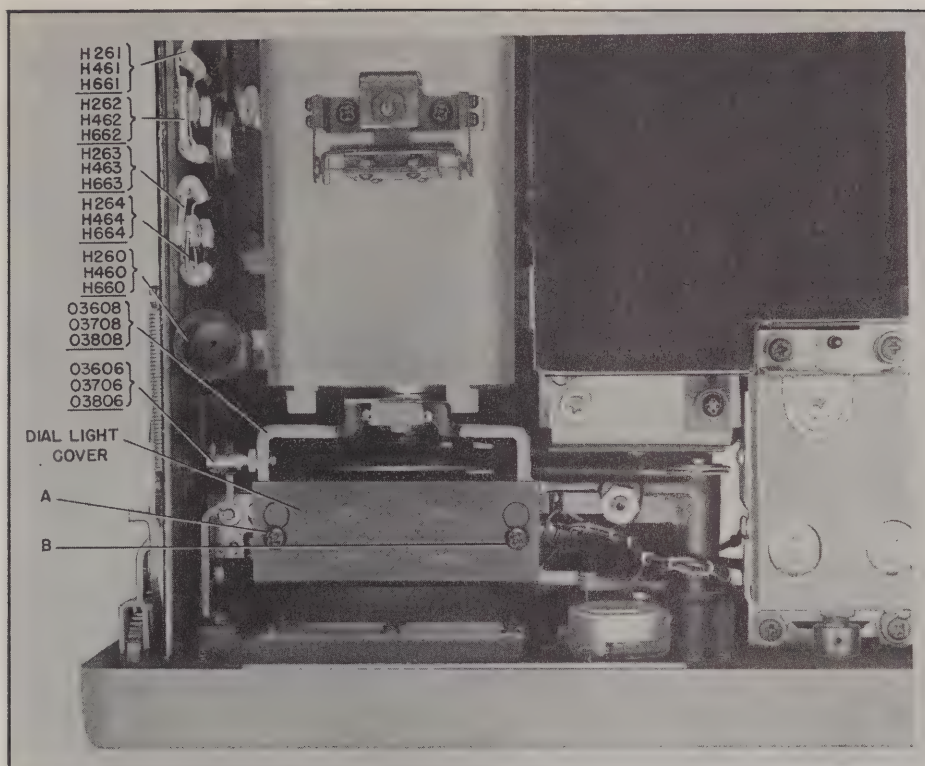
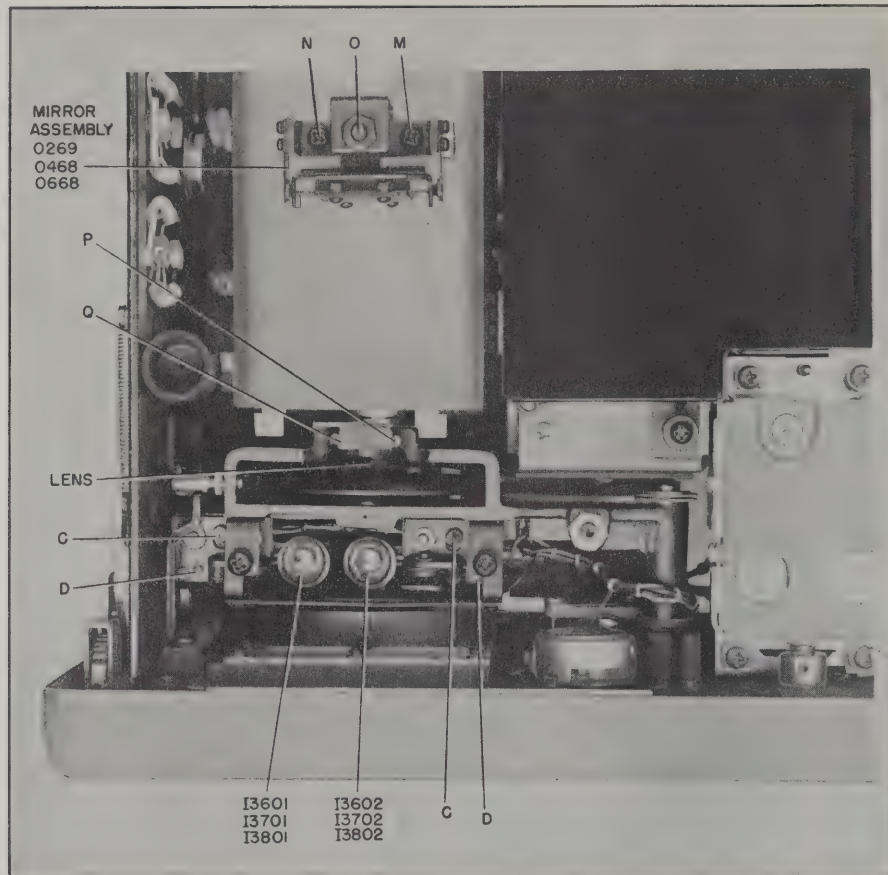

Figure 7-10. Lens-Arm Assembly and Dial Light Compartment, Top View
Figure 7-11. Lens-Arm Assembly and Dial Light Compartment, Cover Removed, Top View
a. PILOT LIGHT AND CRYSTALS.—First remove the pilot light cover or the cover of the assembly in which the crystal lies, then remove the bulb or crystal by use of the rubber plunger (H260, H460, or H660) located near the Allen wrenches on the left inner wall of the chassis (see figure 7-10). This plunger has an opening at each end. Place the end having the proper size opening over the crystal or bulb and press on the plunger until it grips the crystal or bulb. Then remove the bulb or crystal by pulling or twisting the plunger as necessary.
(1) Pull the receiver chassis out to servicing position. Behind the tuning dial, accessible from the upper side of the chassis, is the cover of the dial light compartment (marked I3601, I3602, X3601, X3602, or I3701, I3702, X3701, X3702, or I3801, I3802, X3801, X3802, depending on the receiver type). This is shown in figure 7-10.
(2) Loosen the two captive screws (A and B of figure 7-10) which retain the dial light cover. Slide the cover forward so that its two keyhole-shaped openings clear the captive screws, then lift off the cover.
(3) Replace the bad bulb or bulbs by using the small plunger (H260, H460, or H660) as described for pilot light and crystal removal. Then perform the adjustments given in step (4).
(4) Refer to figure 7-11. Either one of the two lamps can be placed in operating position by means of the LAMPS switch (S3601 on AN/FRR-21, S3701 on AN/FRR-22, and S3801 on AN/FRR-23), a front panel control. There is one pair of red-headed screws C, D on each side of the lamp support frame. In each pair, the larger of the two screws (C) moves the corresponding
①- REFER TO THE APPROPRIATE SCHEMATIC AND CONNECTION DIAGRAM, AND CLIP OFF TUBE LEADS NOT USED.
b. On the top side of the chassis, unhook the spring O3606, O3706, or O3806 (figure 7-10) from the left side of the lens arm assembly O3608, O3708, or O3808 and tie a 6-inch piece of string from the end of the spring to the bracket supporting the lens arm assembly, to prevent the spring from falling into the center of the chassis. Then swing the lens arm assembly open, and tie a piece of string from the end of the lens arm assembly to the right-hand front handle of the chassis.
(See figures 7-10 to 7-13.)
f. Refer to figure 7-11. Adjust the mirror assembly so that the vertical line of the projected dial coincides with the index line on the screen, and the upper one of the two short horizontal lines is about $\frac{1}{32}$ inch below the top of the window (the end screws M, N that mount the mirror assembly will allow adjustment of the vertical line, and the screw O, directly behind the mirror will adjust the centering of the horizontal lines).